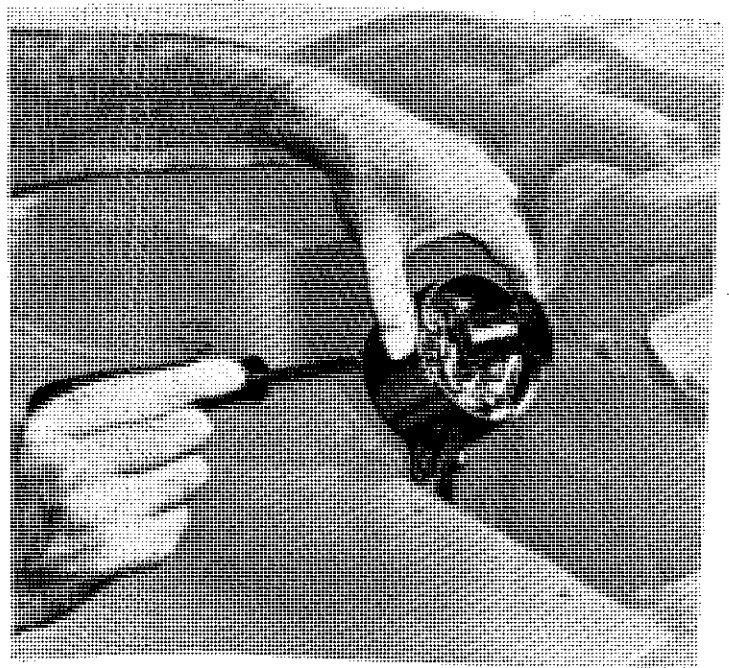

Figure IV -49 Installing Distributor
O. CARBURETOR (figure IV-49).
1. Idle Speed and Mixture Setting (figure IV-49)